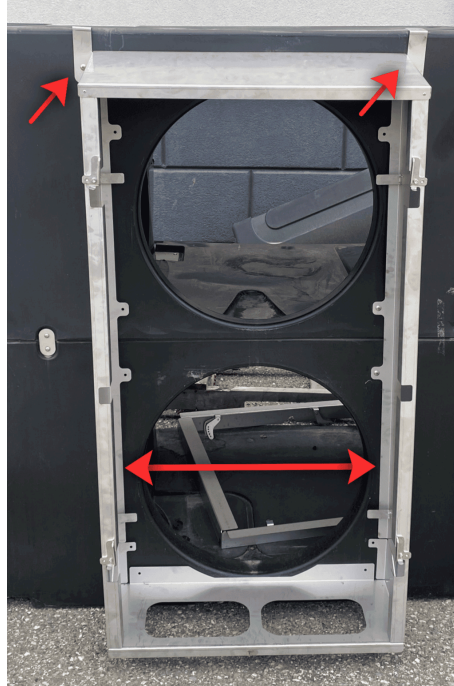

Figure 37 Frame positioning relative to the unit
- d. Use the two (2) top tabs of the frame to position it on the unit. Maintain pressure on the frame until it is secured, as the tabs do not support the weight of the frame.
- e. Center the frame with the two (2) openings of the fans, as shown in Figure 37. If necessary, use a level to ensure the frame is straight.